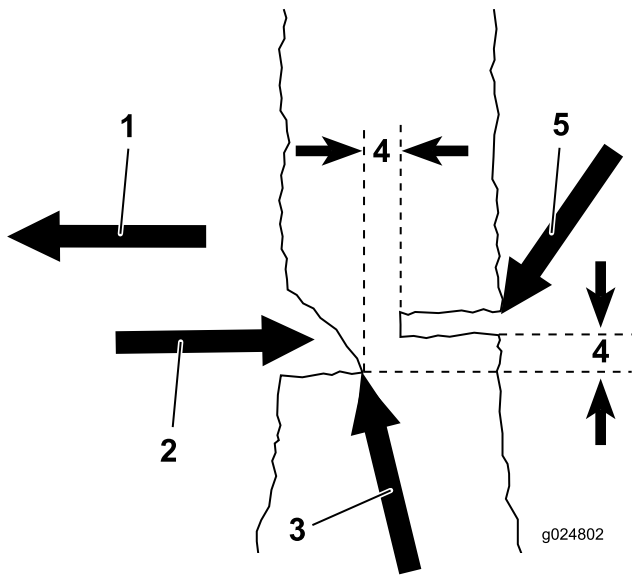

Figure 14
4. Make a back cut parallel to the notching undercut, keeping the back cut at least 51 mm (2 inches) above and away from the notching undercut (Figure 14).
5. As the back cut nears the hinge (Figure 14), the tree should begin to fall. Remove the chain saw, stop the blade by releasing the trigger, place the chain saw down, and retreat along the path you determined in 1.